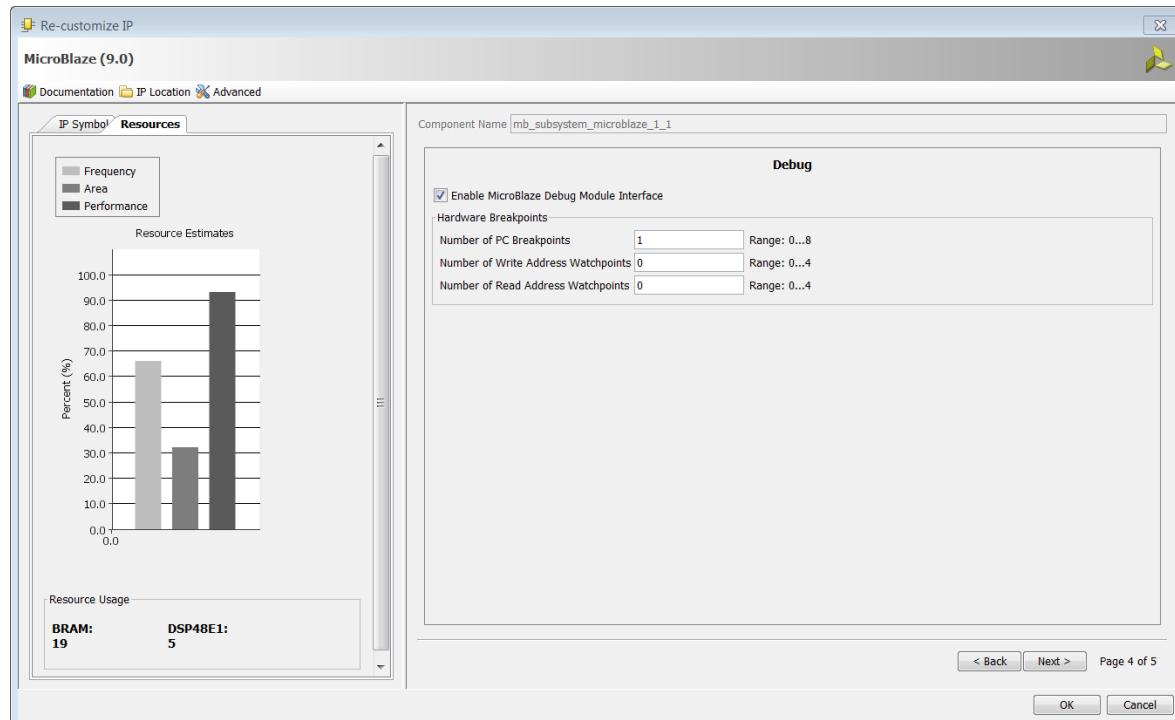

Figure 86: Page 4: Re-customize IP
9. On Page 4 of the Re-customize IP dialog box, ensure that the MicroBlaze Debug Module is enabled, and click Next (Figure 86).